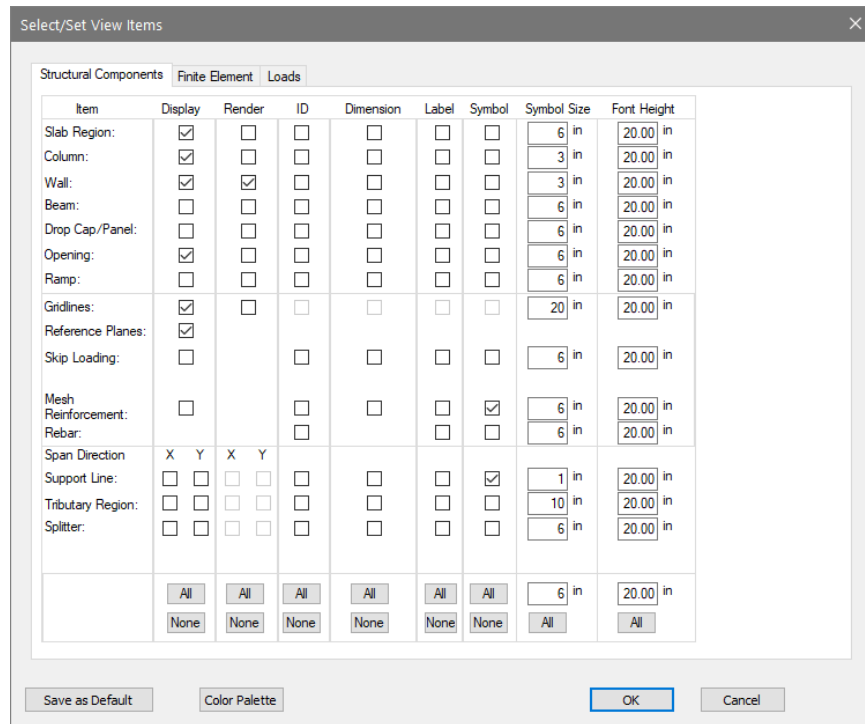

Figure 2-35
- On the *Structural Components* tab, make the selections as shown in **FIGURE 2-35**.